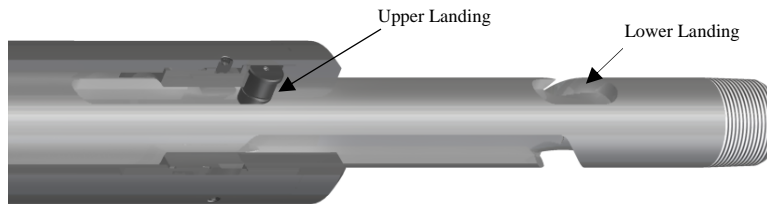

Fig. 7
- L-1.31) Move J-pins (3) to upper landing in slot on J-slot mandrel (20) (Fig. 7). Rotate and move J-slot mandrel (20) downwards as necessary.
- CAUTIONS:** Compression spring (4) will be compressed with spring tension against upper slip body assembly.
- L-1.32) Align threaded holes in body extension (28) with groove in rubber mandrel cap (19). Screw shear screws (22) into body extension (28). Tighten until shear screws (22) contact rubber mandrel cap (19). Back shear screws (22) out 1/4 turn.